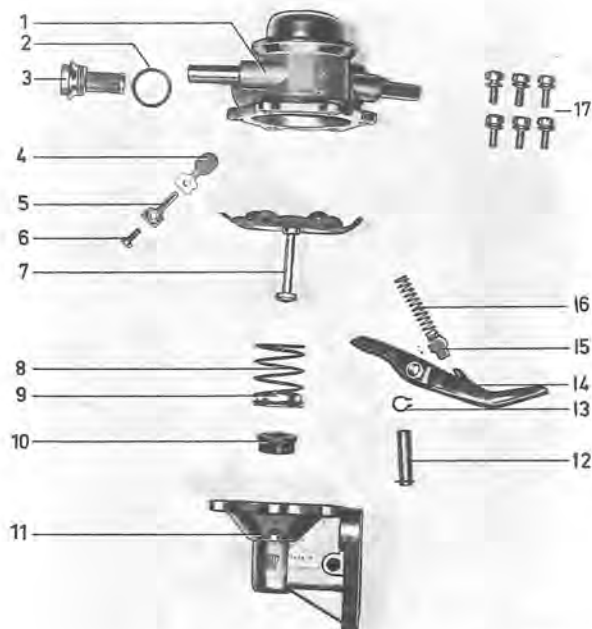

Fig. 2-96. Fuel pump, disassembled
When cleaning the fuel strainer, unscrew the plug (3, Fig. 2-96).
1. Screw out the plug (3, Fig. 2-96) with strainer.
2. Fit the spring (8) and guide (9), see Fig. 2-96. Lever on the rubber seal (10) with the flange facing inwards towards the guide.
4. Press down the diaphragm, move in the lever (14) make sure that it locates correctly in relation to the diaphragm rod. Fit the pin (12), circlip (13), spring retainer (15) and spring (16).